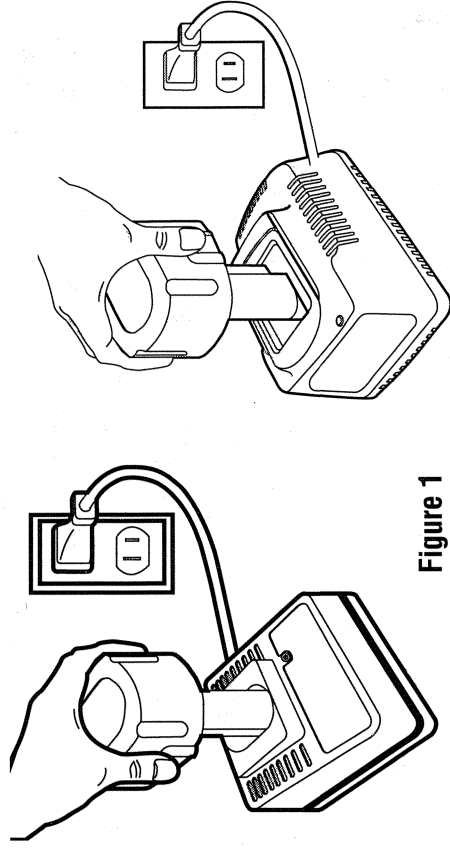

Figure 1
These chargers require no adjustment and are designed to be as easy as possible to operate. Simply place your battery pack into the receptacle of a plugged in charger (FIG.1) and it will automatically charge the pack.
2. Insert the battery pack into the charger, as shown in FIG.1, making sure the pack is fully seated in the charger. The red (charging) light will blink continuously indicating that the charging process has started.
2. Insert the battery pack into the charger, as shown in FIG. 1, making sure the pack is fully seated in the charger. The red light will blink and the charger will beep once indicating the charging process has started.
2. Insert the battery pack into the charger, as shown in FIG. 1, making sure the pack is fully seated in the charger. The red (charging) light will blink continuously indicating that the charging process has started.